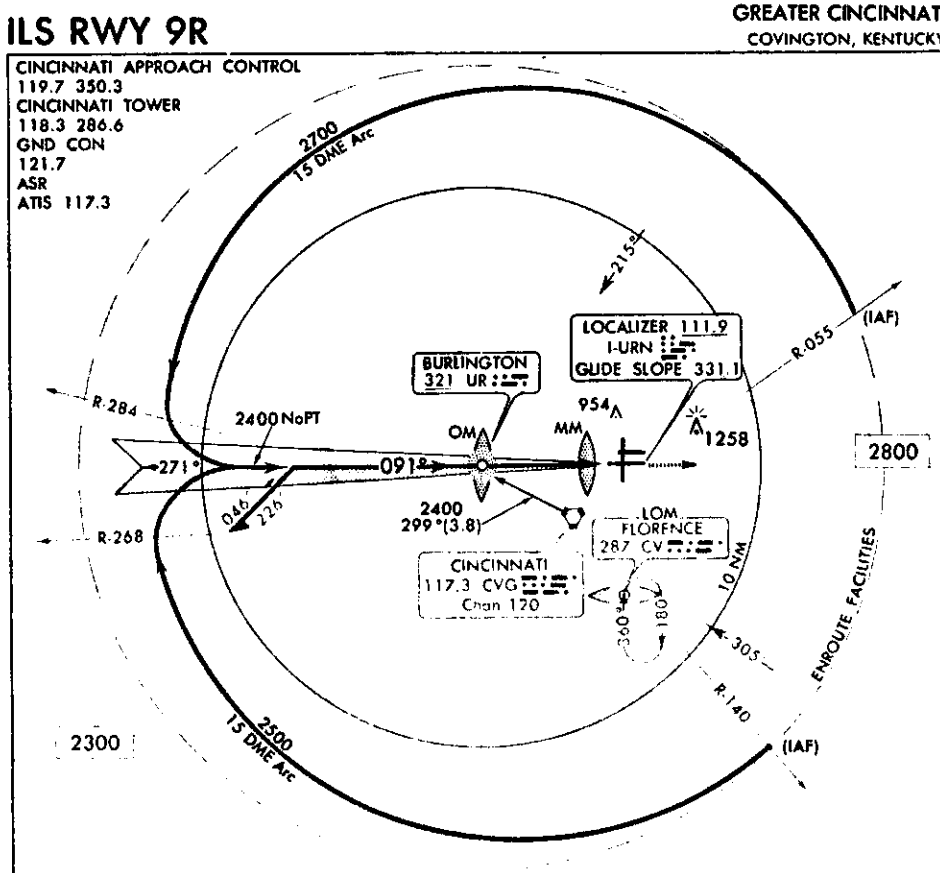

FIGURE 3. LOCALIZER INTERCEPTION FROM DME ARC
7. INTERCEPTING A LOCALIZER FROM A DME ARC. The technique is similar to that described for intercepting a radial from an arc; however, lead radials are ALWAYS DEPICTED (Figure 3). At the lead radial, a pilot having a single VOR/LOCALIZER receiver should simultaneously begin his turn to the final approach course and set in the localizer frequency. With dual VOR/LOCALIZER receivers, one unit may be used to provide azimuth information and the other set to the localizer frequency.